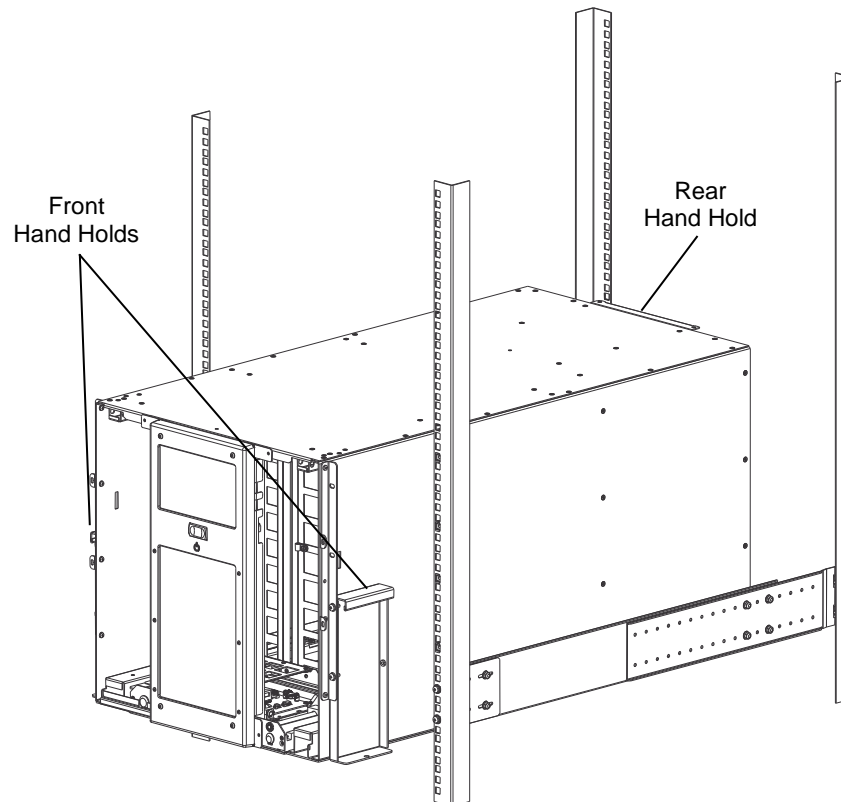

Figure 5-32 Library ready to be removed from the Rack (RLS-85XX shown)
16. With the front hand holds installed, have two or more people slide the library out of the rack and lift the library by grabbing the front and rear hand holds as seen in Figure 5-32.